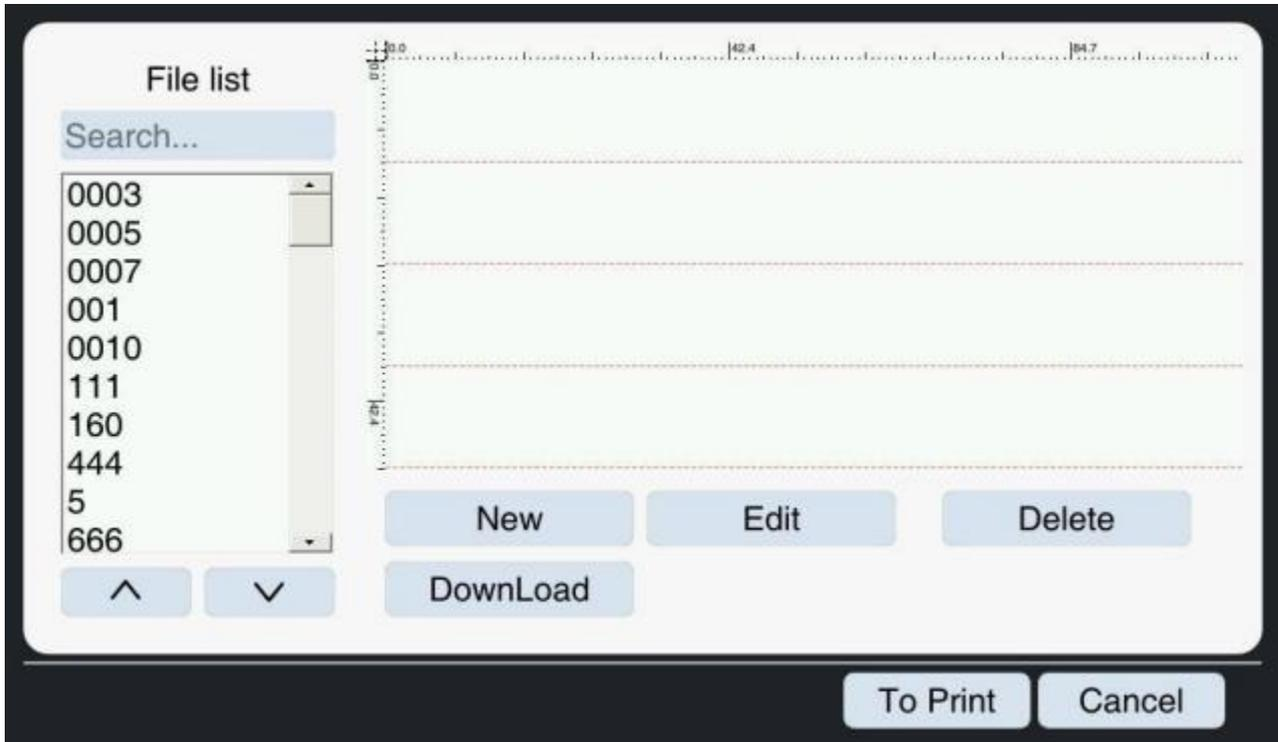

Figure 5-3 File Loading Interface
1、 Clicking the **Load File** button on the main interface, the system will enter the file loading interface. As shown in Figures 5-3.